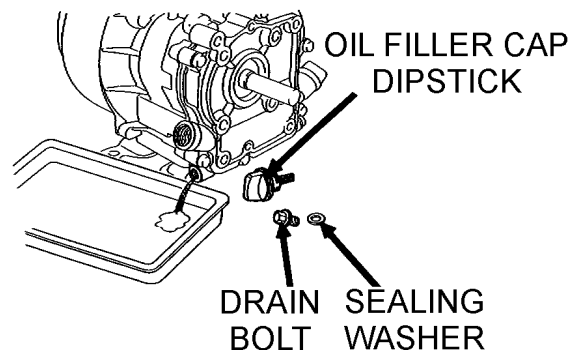

Figure 15. Engine Oil (Draining)
1. Drain the engine oil when the oil is warm after operation. Remove the oil filler cap then unscrew the engine oil drain plug located at the base of the engine. Drain the old oil into a pan (Figure 15).